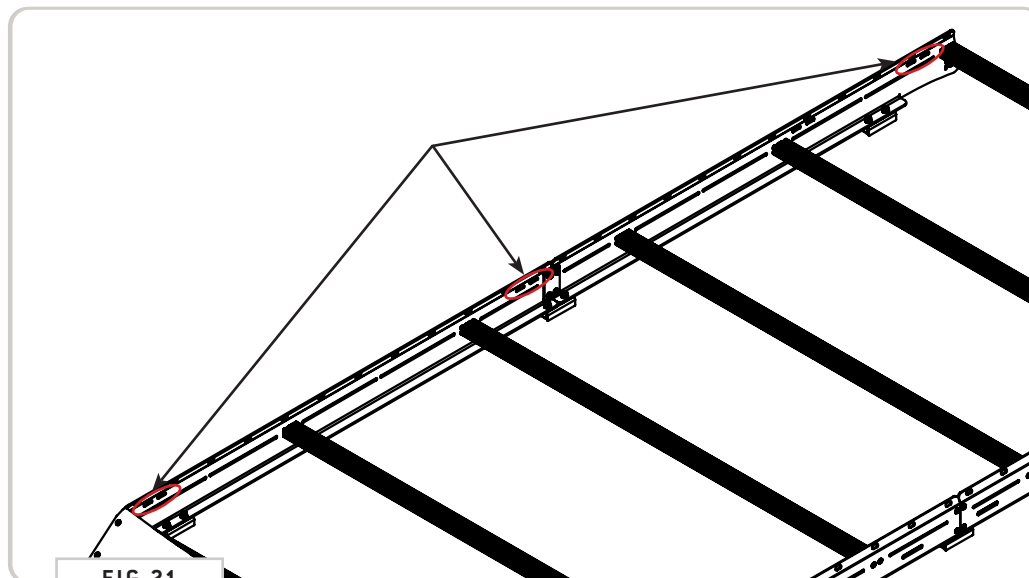

FIG 21
6.3 Fiamma Awning Install (Optional): If installing a **Fiamma F45s Or Similar Awning**; we have conveniently placed **Mounting Holes** as shown in FIG 21 for you to bolt your support brackets to.